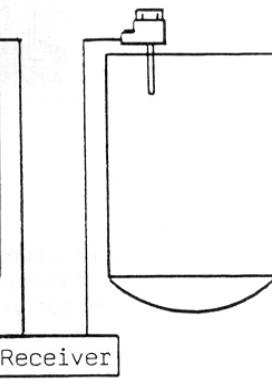

Fig 3A
3. Control 2 probes in different locations. (Fig 3A)
The receiver has 3 SPDT 5 amp relays for control: one relay for the high set point, 1 for the low setpoint and a latching relay for automatic filling or emptying between the 2 setpoints. The latching relay would not be used if configured as Fig. 3A.